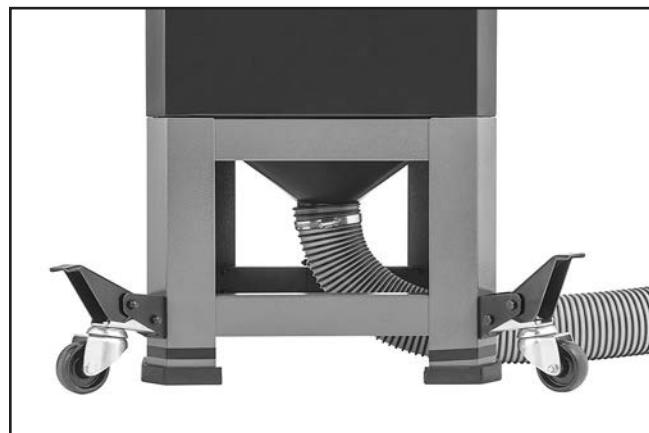

Figure 35. Dust hose attached to dust port.
1. Fit 4" dust hose over dust port and secure in place with hose clamp (see **Figure 35**).